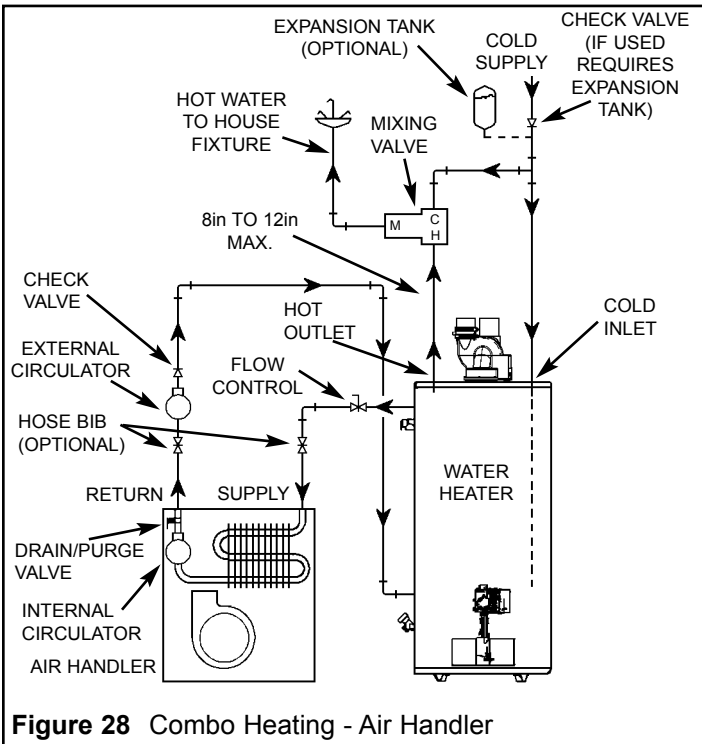

Figure 28 Combo Heating - Air Handler
8. "Combo" Heating Systems require higher water temperatures than other applications. When the system is used to supply water for Combo Heating applications, a means, such as mixing valve, must be installed to temper the water in order to reduce scald hazard potential (see Figures 28 & 29).
- A. A fan coil/air handler (Figure 28).